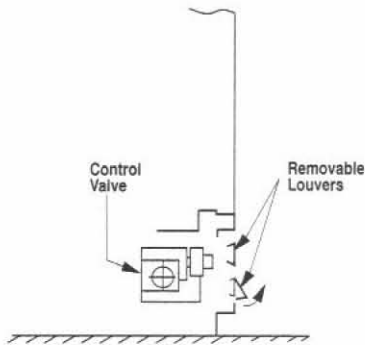

Figure 16
The gas control valve is located under the refractory shelf. If previously installed, remove the two (2) bottom louvers by unsnapping the bottom edge at each end and set aside (*Figure 16*). The control valve has a 3/8" NPT thread inlet port. Plan the connections accordingly.